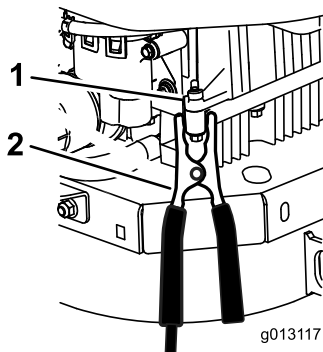

Figure 61
6. **Make the final connection on the engine block of the stalled vehicle (*not* to the negative battery post) away from the battery and stand back (Figure 61).**